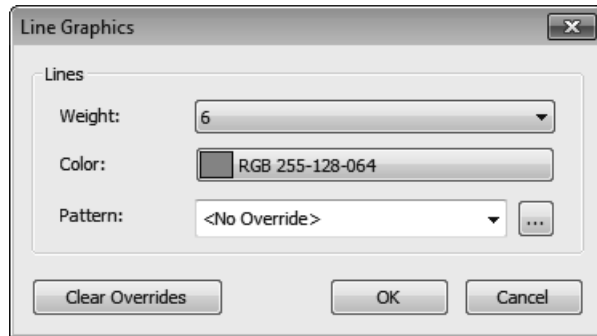

Figure 1–86
7. In the Line Graphics dialog box, change *Weight* to **6** and the *Color* to an orange, as shown in Figure 1–86. Click .